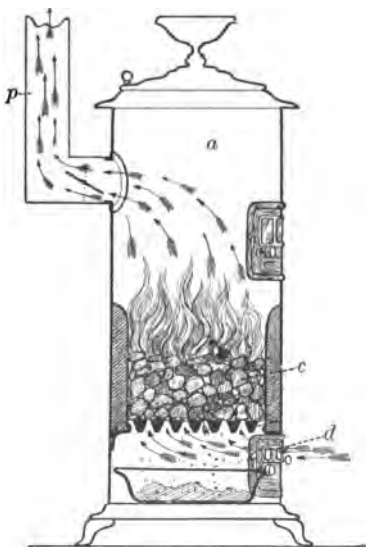

FIG. 101
The same principle is applied to a *stove*, as shown in Fig. 101. The air above the fire, *a*, is heated and rushes up the chimney *p*. Air from the outside then enters through the draught *d* and supplies the fuel *c* with what it needs. A fire may be made to burn
*Stoves*, as shown in § 104, serve as ventilators by keeping a supply of warm air going up the chimney (Fig. 101). A supply of air must force its way into